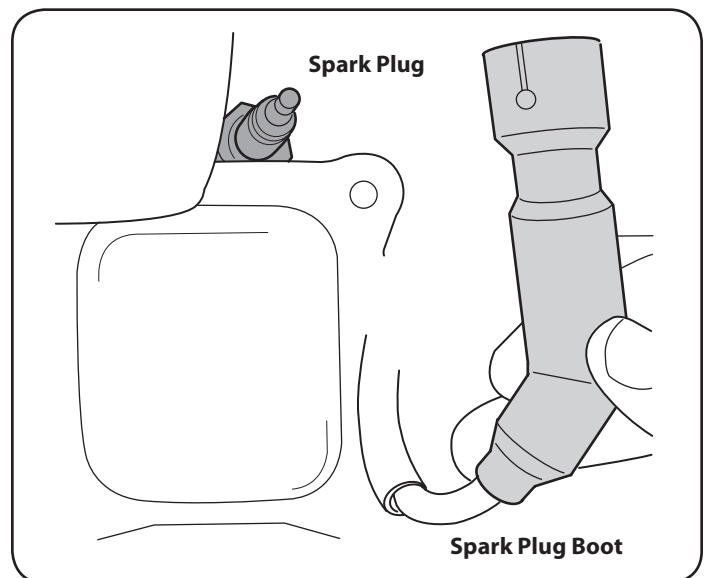

Figure 22
- Remove the spark plug boot and use a spark plug wrench to remove the plug. See Figure 22.